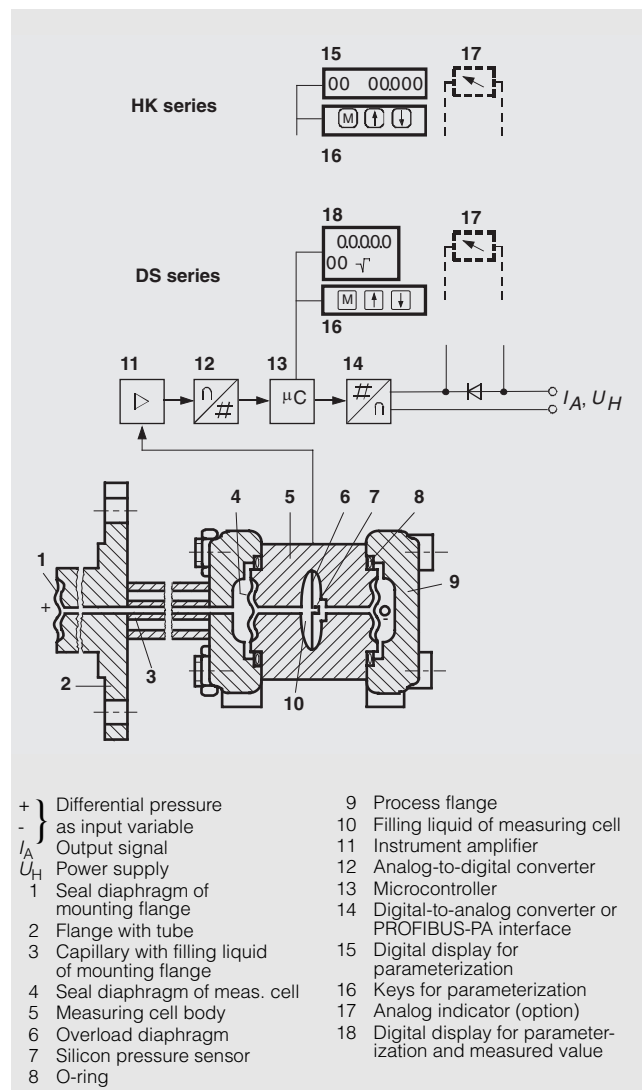

Fig. 1/24 Functional diagram
The input pressure (hydrostatic pressure) acts on the measuring cell via the seal diaphragm (1, Fig. 1/24) of the mounting flange. The differential pressure present on the measuring cell is applied via the seal diaphragm (4) and the filling liquid in the measuring cell body (5) to the silicon pressure sensor (7) whose measuring diaphragm is then flexed.